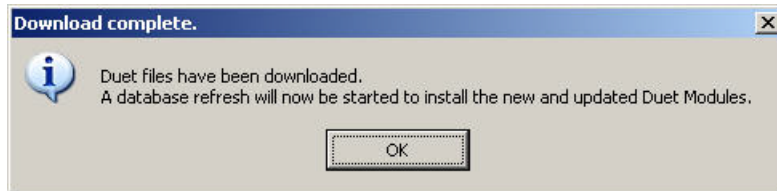

FIG. 293 Download Complete
5. VA indicates when the download is complete, and alerts you that the Database will be refreshed to install the new and updated Modules (FIG. 293):